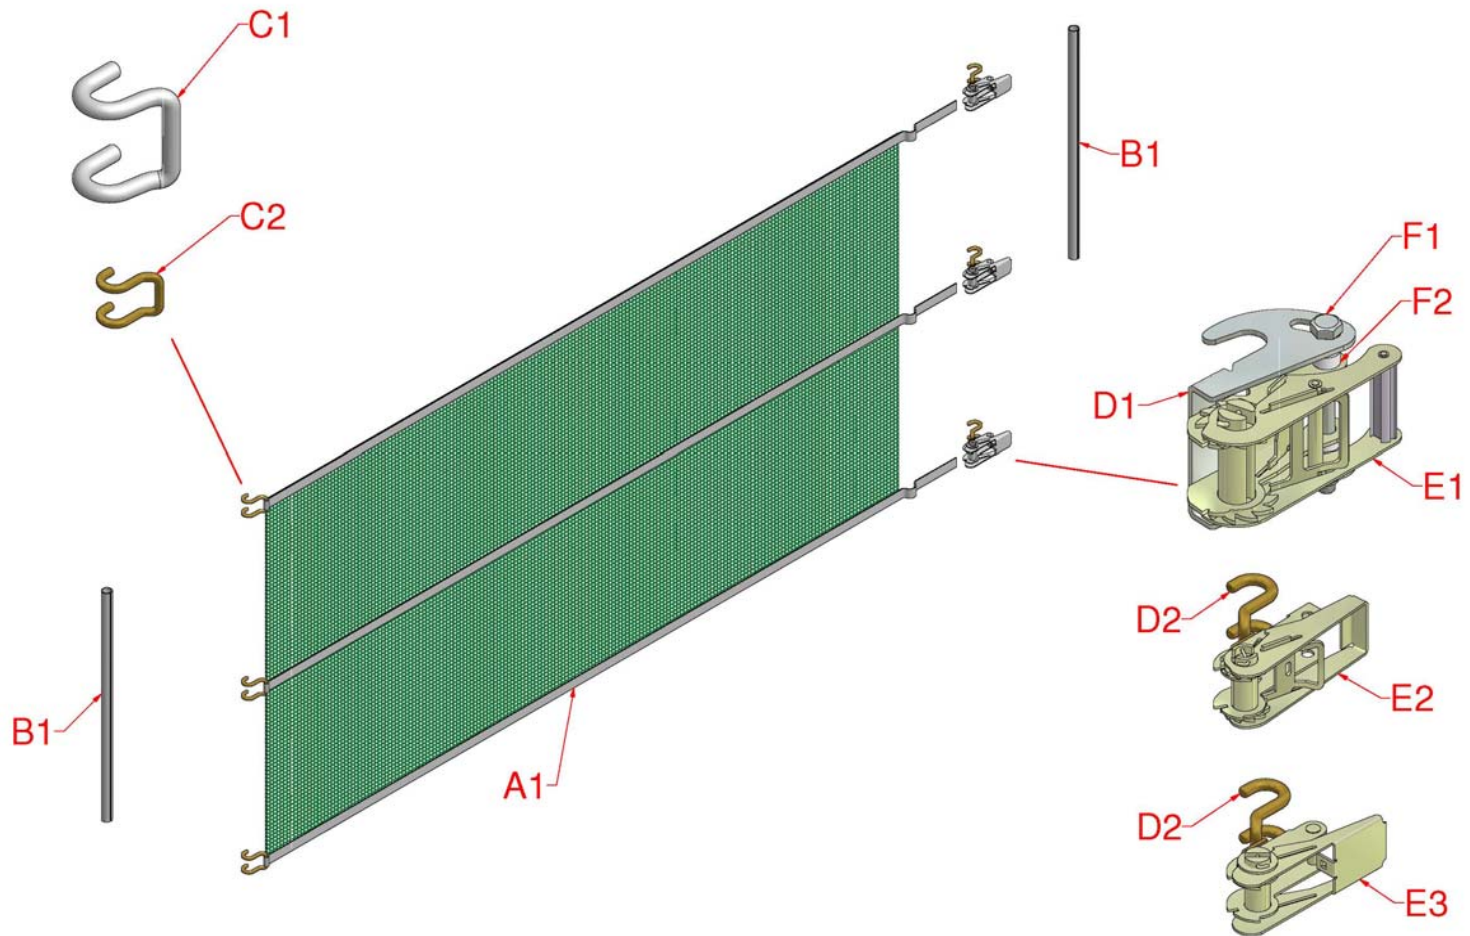

Figure 1, System Overview and Individual Components
1. Check the contents of your Bayscreen against the parts list using Figure 1. Do not let the screen material come into contact with any sharp objects or edges.